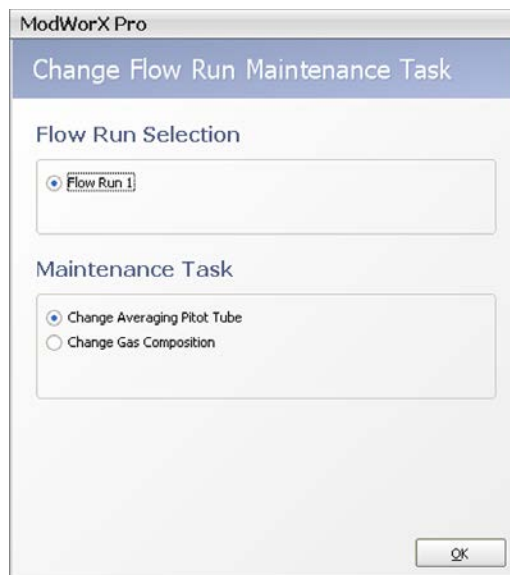

Figure 11.2
2. Click **Yes** at the Enter Maintenance Mode prompt. The Change Flow Run Maintenance Task screen will appear (Figure 11.2, page 151).